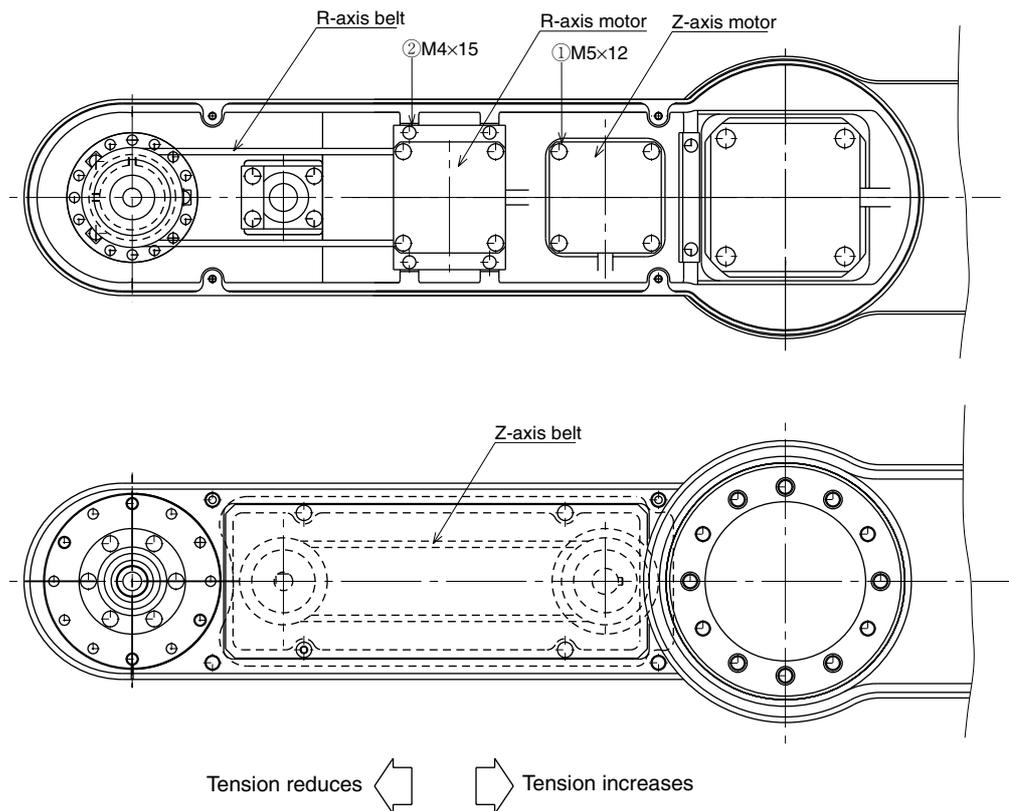

Fig. 4-33 YK700X, YK800X, YK1000X
1. Loosen the bolt ① shown in Fig. 4-33.
1. Loosen the bolt ② shown in Fig. 4-33.
- 9) After adjustment is complete, tighten the bolt ① or ② to the torque specified in Table 4-11.